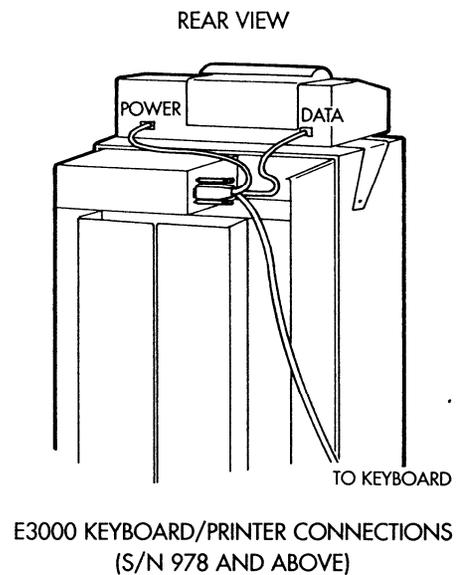

Figure 3
1. Remove the two upper screws holding the rear cover (with the LCD display). Refer to *Figure 3*.
2. Place the printer tray on top of the Elrepho and attach with the two (2) new screws supplied. (The original screws are too short).